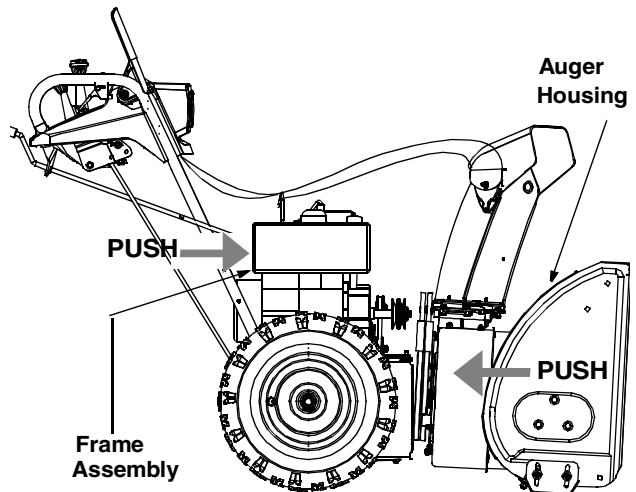

Figure 33
- While lifting up on the handles, bring the frame assembly close to the auger housing, and place the two belts on the front and rear engine pulleys. See Figure 33.